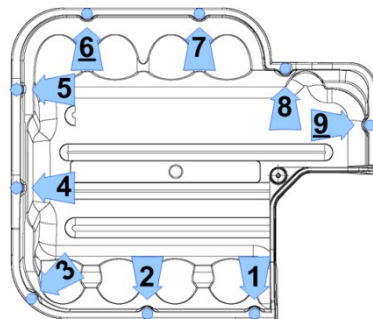

Figure 35 – Top Cover Torque Sequence
- 42. Place the Top Cover and secure it with the M5x15 fasteners according to the following sequence. Follow the sequence twice. The first time, only tighten the fasteners half way down to allow for adjustments. Torque to 13 in.lb. on the second pass. Refer to Figure 35 (Top Cover Torque Sequence).